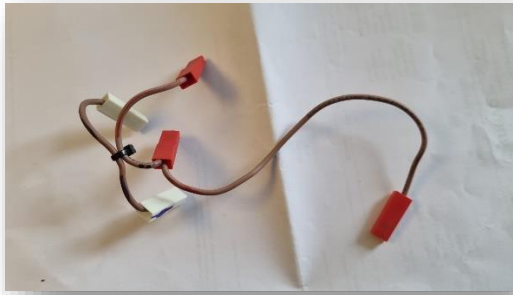

Fig. 2.2
- Remove from 2 (Steam Btn. left-up position) the brown wire with red plugs (this cable make connection between 2, C and B) (fig. 2.2)
- Remove the small brown wire white plugs connecting C with E (fig. 2.2)